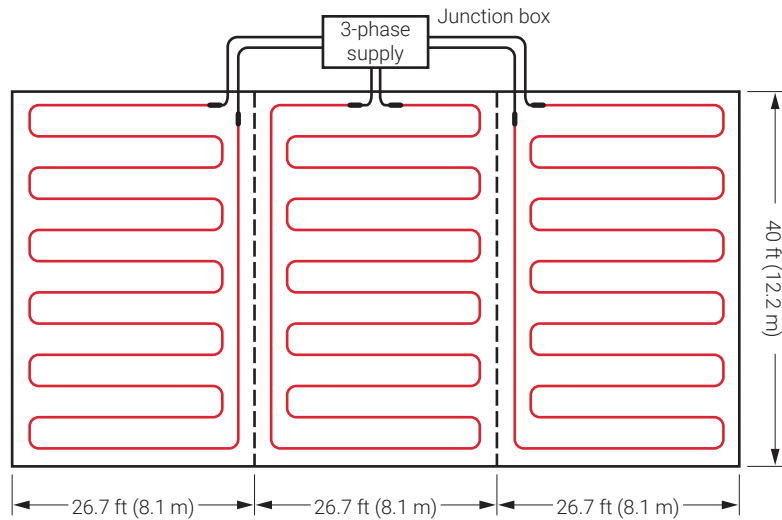

Fig. 16 Typical three-phase heating cable layout for heat loss replacement
A single heating cable may be sufficient for small floor areas. For large floor areas, it may be necessary to divide the area into two or more equal subsections (Fig. 17 on page 298). For a three-phase voltage supply, divide the total area into three equal subsections (Fig. 16 on page 295) or a multiple of three equal subsections when more than one circuit is necessary. If expansion joints will be used in the floor, divide the area so that the heating cables will not cross any expansion joints.
- Divide the total heated floor area into three equal subsections (Fig. 16) or a multiple of three equal subsections when more than one circuit is necessary.
Subsection area	3200 ft ² / 3 = 1067 ft ² (see Fig. 16) 297.4 m ² / 3 = 99.1 m ²